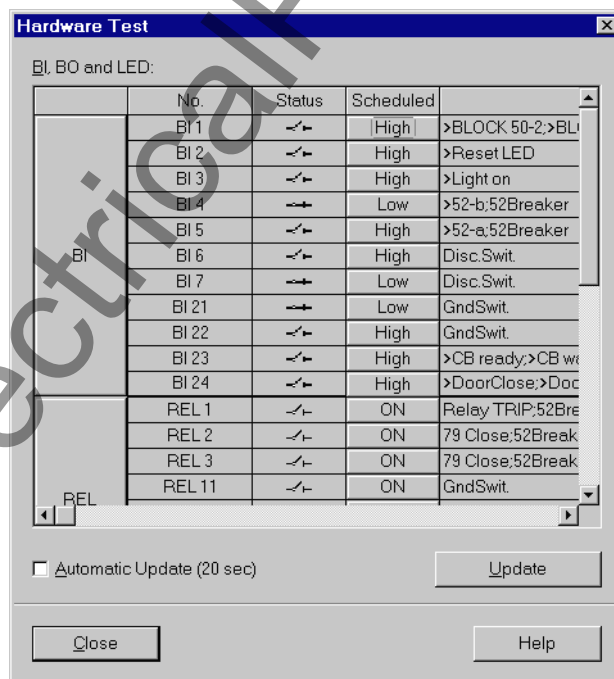

Figure 3-15 Dialogue box for hardware test — example
- ❑ Double-click in the list view on **Hardware Test**. The dialogue box of the same name opens (see Figure 3-15).